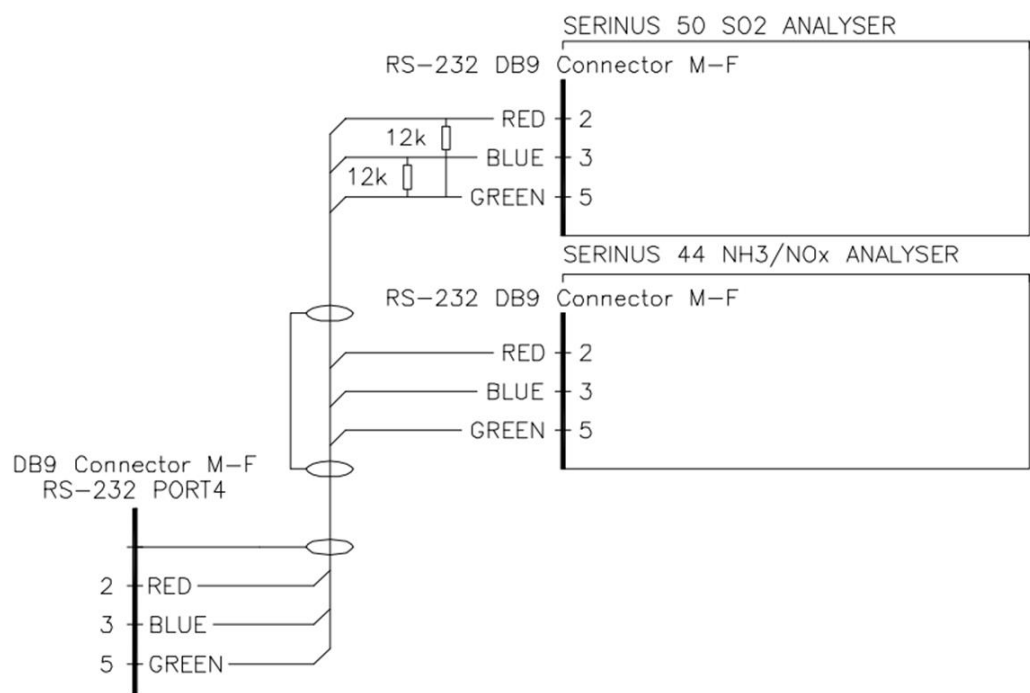

Figure 73 – Multidrop RS232 Cable Example
- A 12K ohm terminating resistor should be placed on the last connector of the cable (connect from pin 2 to pin 5 and from pin 3 to pin 5 – refer to Figure 73).